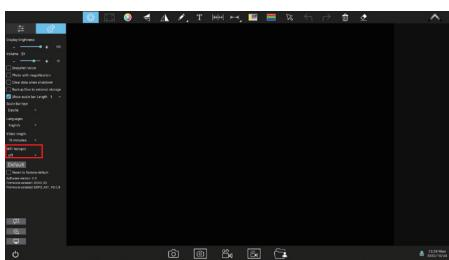

Figure 1
- (1) Click the " " setting icon in the upper left corner of KoPa WiFi Lab AO;
- (2) Click the icon " " ;
- (3) Click the icon " " at the bottom left, Open WLAN (as in Figure 1 and 2);